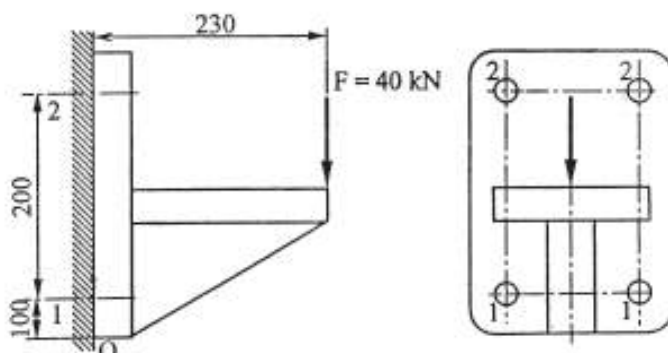

FIGURE 3 , QUES 5a
5. a) A bracket is subjected to a load of 40 kN as shown in Figure 3. If the permissible tensile strength is 50 MPa and the permissible shear strength is 30 MPa, determine the size of the bolts. 9